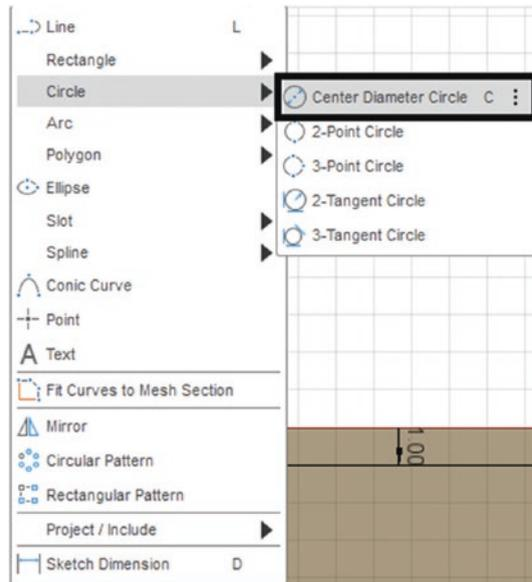

Figure 3-62. Select the Center Diameter Circle
14. Now select the Center Diameter Circle by going here: SKETCH ► CREATE ► Circle ► Center Diameter Circle, or just press the “C” key. See Figure 3-62.